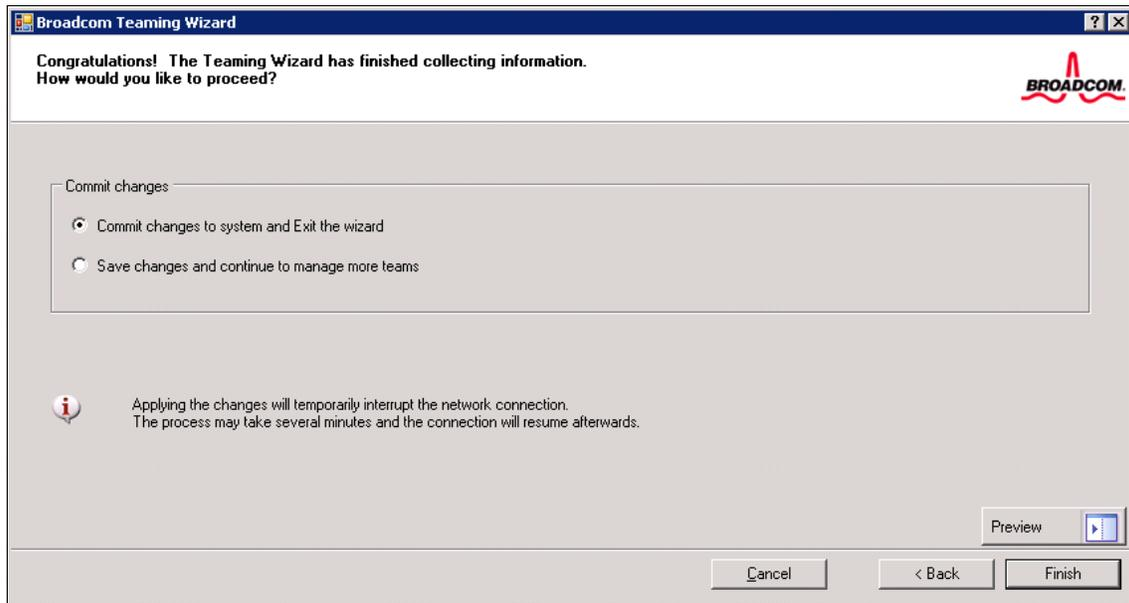

Figure 9-37 Commit changes window
8. In the Commit Changes window (Figure 9-37), if needed, select **Save changes and continue to manage more teams**. In this example, we select **Commit changes to system and Exit the wizard**. Then click **Finish**.